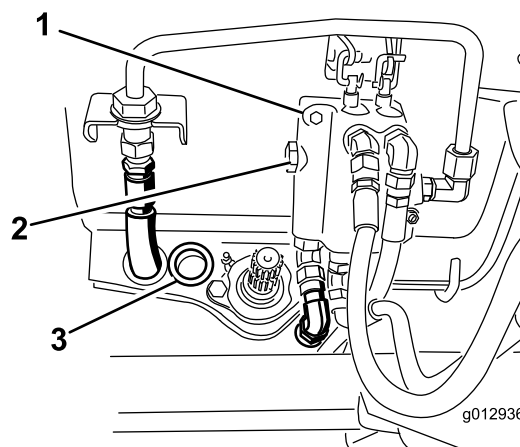

Figure 22
36. At the front of the machine, locate the front attachment lift valve (Figure 22).
37. Remove the plug from the valve assembly (Figure 22).
40. Route the long manifold hose forward, under the radiator frame, over the frame cross member and thru the hole in the bulk head (Figure 22) to the front of the machine. Stay clear of hot or rotating components.